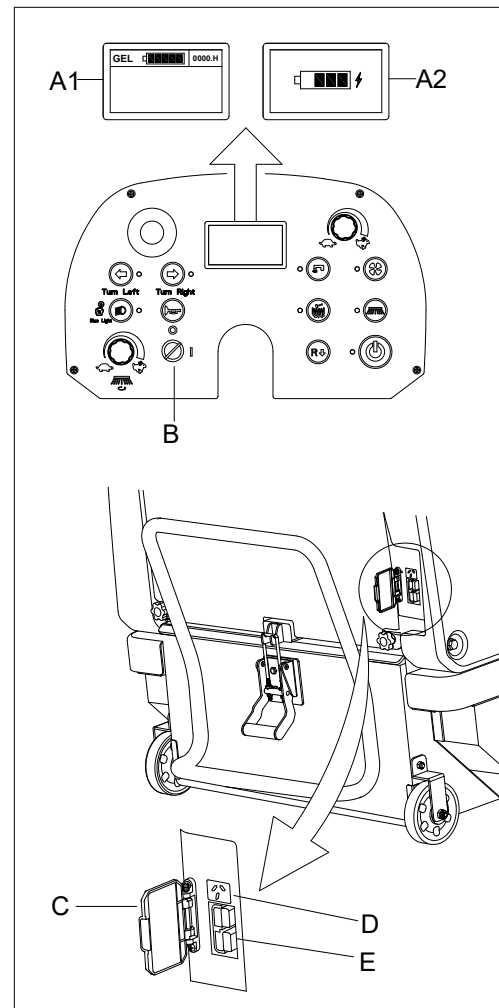

Figure 18
2. Turn the ignition key (B, Figure 18) to "O".
4. Open the protective cover (C, Figure 18). Connect the external charger connector to the connector (E, Figure 18) on the machine. When the external charger is connected to the machine, all machine functions are automatically shut down.
8. Insert the ignition key (B, Figure 18) and turn it to "I". Check the battery level on multifunction display (A1, Figure 18).
9. Open the protective cover (C, Figure 18). Connect the power cord to the on-board charger plug (D, Figure 18) on the machine, then plug the other end of power cord into the wall socket.
10. The charging status can be checked on multifunction display (A2, Figure 18).
13. Insert the ignition key (B, Figure 18) and turn it to "I". Check the battery level on multifunction display (A1, Figure 18).